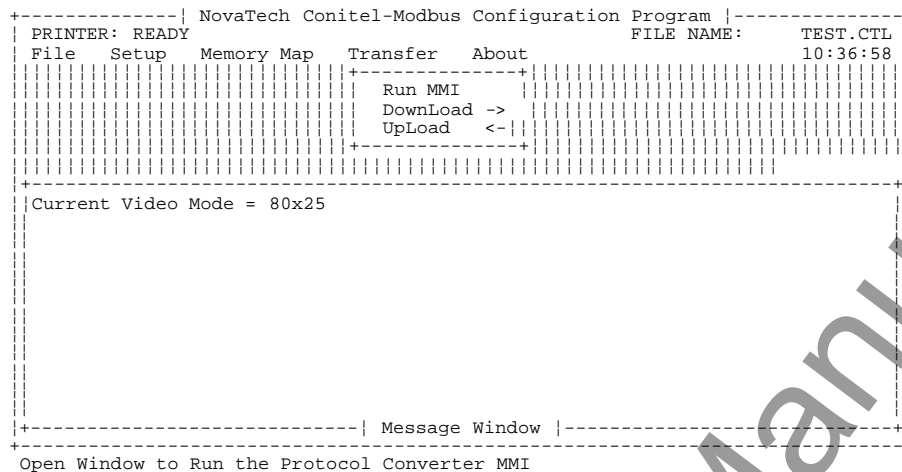

Figure 9 – Transfer And Debug Configuration Screen
15. The configuration files must now be downloaded to the ORION unit. Select the TRANSFER menu and then select the Download Option. The following screen should be displayed. When the parameters are accepted by the ORION, an indication shall be shown on the screen. Additionally, the amber CONFIG LED at the front panel of the unit shall not flash. A constant illumination shall appear on the LED. Figure 9 illustrates the menu selection for download selection.
16. The ORION Unit is now configured for communication to both the Conitel Host and the Modbus IED. When the Conitel Host polls the ORION unit, the Red TX and RX LED's shall illuminate on a Host Transmission and ORION Response. To observe the communication strings sent/received by the ORION, by selecting the "RUN MMI" menu item as illustrated in Figure 9, shall reveal the following menu items displayed upon the PC screen.
4. The ORION Amber CONFIG LED flashes .	A. The ORION has not been configured. Download the saved configuration file from the configuration terminal. (Step 15 Figure 9)
5. Communication does not occur between the relay and the ORION connection via the IED port on the ORION.	A. Verify the Supplied IED RS 485 connections and cable connections as shown in Figure 2. B. Verify the port parameters in the attached relay as described in Step 7. C. Verify the ORION configuration settings as described in Step 11 Figure 5. D. Have the configuration settings been downloaded to the ORION as described in Step 15 Figure 9. E. Modify the Warm –Up and Warm Down delays in the Modbus IED port parameterization screen to be 10 mS less than is presently configured. Download the new configuration to the ORION Unit. (Step 11 Figure 5 and Step 15 Figure 9).
<p>as described in Step 11 Figure 5.</p> <p>E. Have the configuration settings been downloaded to the ORION as described in Step 15 Figure 9.</p> <p>F. A timeout has occurred. Modify the Warm-Up and Warm Down delays in the Modbus IED port parameterization screen to be 10 mS less than is presently configured. Download the new configuration to the ORION Unit. (Step 11 Figure 5 and Step 15 Figure 9).</p>
9. Communications Strings are not visible when the RUN MMI and submenu 1 Toggle Conitel Port Display) selection are visible (steps 16 through 21)	<p>A. Check the SCADA Port Cabling per the Host manufacturer's specification.</p> <p>B. Verify the (SCADA) Conitel Port Configuration through the setup menu of the CON2MOD setup utility. (Step 12 Figure 6).</p> <p>C. Conitel (SCADA) Port Timeout has occurred decrease the Warm Up and Warm-down timeout values by 10 mS until issue resolved.</p> <p>D. Verify the Supplied IED RS 485 connections and cable connections as shown in Figure 2 (Step 6).</p> <p>E. Verify the IED port parameters in the attached relay as described in Step 7.</p> <p>G. Verify the ORION IED configuration settings as described in Step 11 Figure 5.</p> <p>H. Have the configuration settings been downloaded to the ORION as described in Step 15 Figure 9.</p> <p>I. A timeout has occurred. Modify the IED's Warm-Up and Warm Down delays in the Modbus IED port parameterization screen to be 10 mS less than is presently configured. Download the new configuration to the ORION Unit. (Step 11 Figure 5 and Step 15 Figure 9).</p> <p>J. If the communications between the IED and ORION are RS 485, verify that the termination resistor has been installed (JP 15) in the ORION (Figure 3).</p>